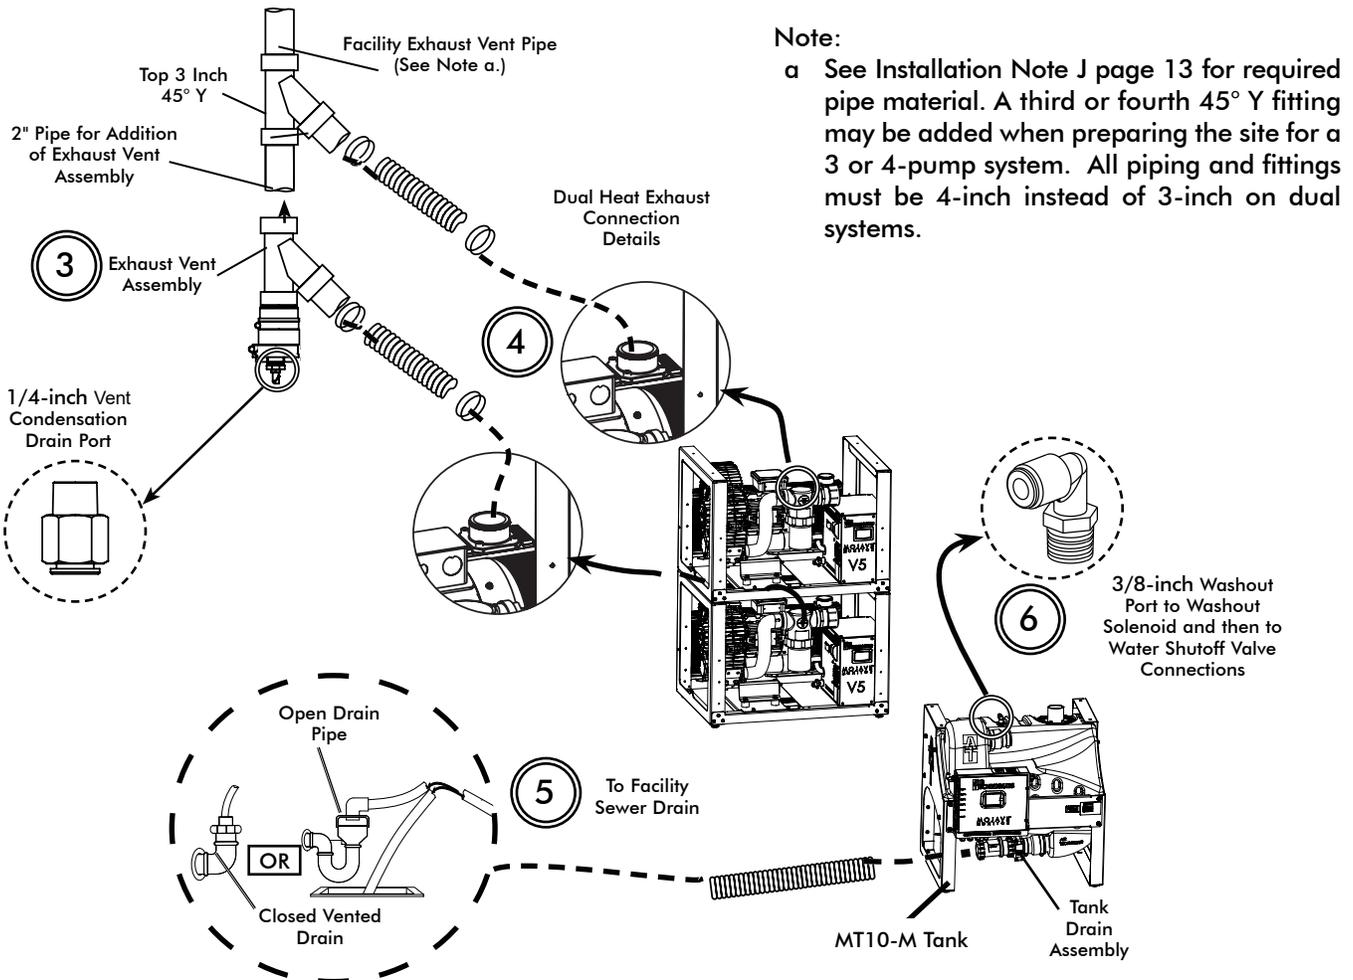

Figure 10. MOJAVE Dual Pump and Tank Connection Diagram, Sheet 2
Installation Accessory Packs. Figure 10 shows the hose connections required for all dual **MOJAVE** system configuration installations using accessory packs that provide the required hoses, clamps and adapters as follows:
- Connect each pump to the facility vent line, connection item (4) on Figure 10, sheet 2.
- Between the suction line and tank inlet. Item (1) on Figure 10, sheet 1.
- Install the Exhaust Vent Assembly to the facility vent line, connection item (3) on Figure 10, sheet 2.
- The tank outlet drain to the facility sewer drain. Item (5) on Figure 10, sheet 2.
- The washout port to the washout solenoid or water shutoff valve. Item (6) on Figure 10, sheet 2.
Between the tank air outlet and each pump inlet. Item (2) on Figure 10, sheet 1.
2V3M, 2V3MCT, 2V5M, 2V5MCT and 2V7M Connection Procedure. Using industry standard techniques, make the connections between the tank and pumps with supplied components of accessory packs (P/Ns H5170 or H5307 & H5210) and Dual System Installation Kit (P/N MIK2). Refer to Figure 10, sheets 1 and 2, for the connection diagram and perform the following procedure.
1. **Suction Line to Tank Inlet Connection.** Refer to Figure 10, item (1) .
2. **Tank Air Outlet to Pump Inlets Connection.** Refer to Figure 10, item (2) .
- c. Install a length of 1/4 inch OD Urethane Tubing (P/N 51453) between the vacuum sample port and the vacuum inlet port of the Master Controller. See Figure 10, item (2a.)
3. **Exhaust Vent Assembly Installation.** Install the Exhaust Vent Assembly (P/N H5302) to the bottom end of the facility vent line. Install a length of 1/4 inch OD Urethane Tubing (P/N 51453) between the vent condensation drain port and facility sewer drain. See Figure 10, sheet 2, item (3).
4. **Heat Exhaust Vent Connection.** Refer to Figure 10, sheet 2, item (4) and connect the vent hose (P/N 56057) between the pump heat exchanger and the facility vent line. Secure with two hose clamps (P/N 89324). On systems without heat exchangers (-NHE models), the vent hose is connected directly to the pump exhaust.
6. Fabricate additional reducing Y or tee adapters to connect each pump vent tube to the common 4-inch exhaust vent line. See Figure 10, sheet 2.
4. **Heat Exhaust Vent Connection.** Refer to Figure 10, item (4) and connect the vent hose (P/N 56057) between the pump heat exchanger and the facility vent line via fabricated reducing Y or tee adapters. Secure with hose clamps (P/N 89324). On systems without heat exchangers (-NHE models), the vent hose is connected directly to the pump exhaust.
5. **Tank Drain to Facility Sewer Connection.** Connect the last section of 1 1/2" ID, clear hose cut for installation to the adapter. Secure by tightening the check valve compression nut. Connect unconnected hose end to the facility sewer drain as necessary. See Figure 10, sheet 2, item (5).
6. **Tank Washout Port to Facility Water Connection.** Refer to See Figure 10, sheet 2, item (6) and install a length of 3/8 inch tubing (P/N 19271) between the washout port and the washout solenoid and then to water shutoff valve. The tubing is provided with CT20-M or CT22-M Tank Accessory Pack, P/N H5243 or H5289.